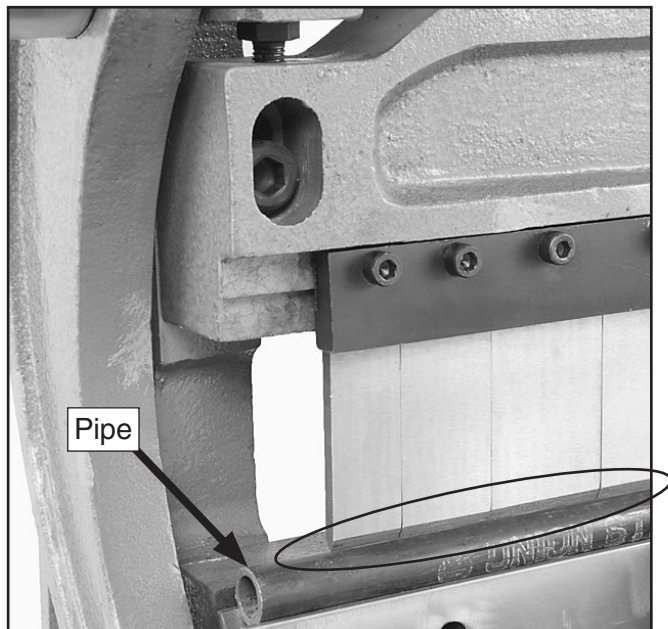

Figure 54. Brake alignment clearance.
4. Raise the finger receiver so the side of the pipe makes light contact with the fingers (**Figure 54**).